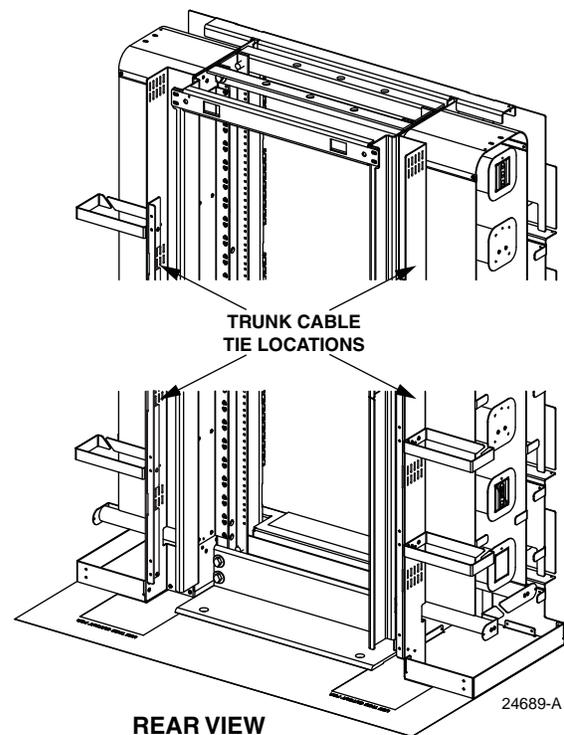

Figure 22. Trunk Cable Tie Locations
5. Cable tie locations are provided on each vertical cable guide, see Figure 22. Dress and secure trunk cables to vertical cable guide as necessary.